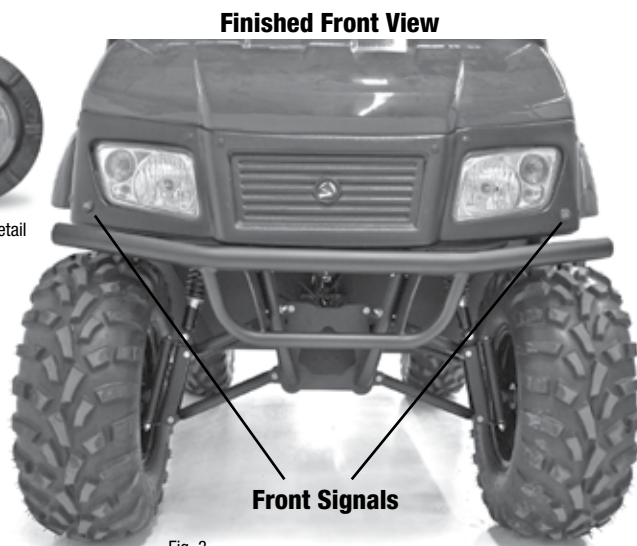

Fig. 3
- Drill a 3/4" hole with a sharp wood boring bit or hole saw for each signal light in the desired positions as shown in figures 3 & 4. Mount the signal lights into the holes by feeding the light wires through the hole and pushing the light firmly into the hole. (**NOTE: The top of the light is marked on the front of the amber lens as shown below.**)